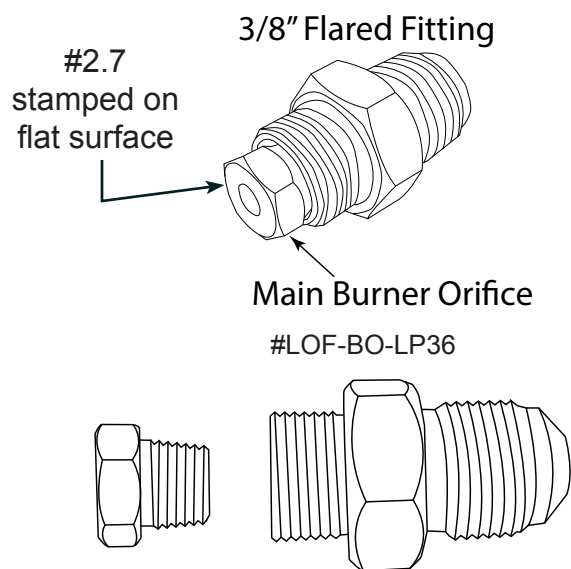

Fig. 13 Shows main burner orifice.
Step 4: Remove the $\frac{3}{8}$ " flex connector from the main burner orifice. See Fig. 13 for reference.